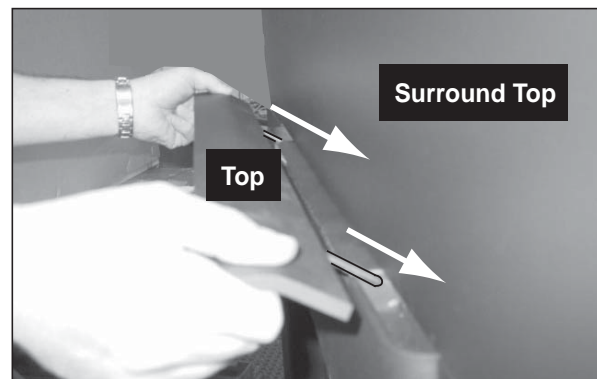

Figure 22.4
1. Push the top into place by aligning the pins into the slots. **Figure 22.4.**